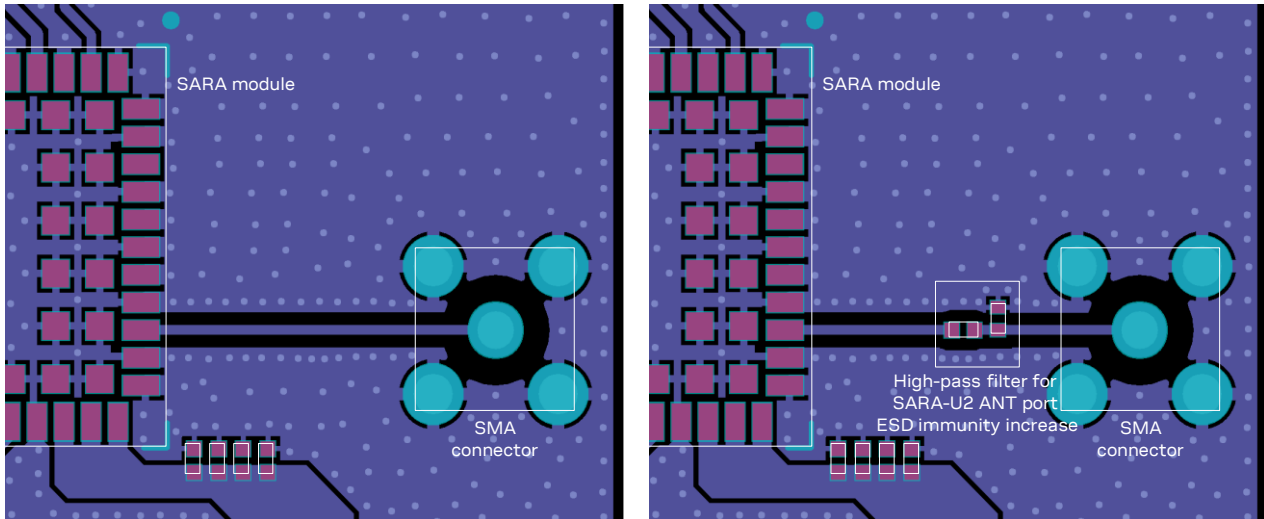

Figure 59: Suggested circuit and layout for antenna RF circuit on application board, if antenna detection is not required
- Add GND vias around transmission line, as described in Figure 59.
- Ensure a solid metal connection of the adjacent metal layer on the PCB stack-up to the main ground layer, providing enough on the adjacent metal layer, as described in Figure 59.
Two examples of correct RF circuit design are illustrated in Figure 59, where the antenna detection circuit is not implemented (if the antenna detection function is required by the application, follow the guidelines for circuit and layout implementation detailed in section 2.4.2):
- SMA Pin-Through-Hole connectors require GND keep-out (i.e. clearance, a void area) on all the layers around the central pin up to the annular pads of the four GND posts, as shown in Figure 59.
If the antenna detection function is not required by the customer application, the **ANT\_DET** pin can be left not connected and the **ANT** pin can be directly connected to the antenna connector by means of a 50  $\Omega$  transmission line as described in Figure 59.